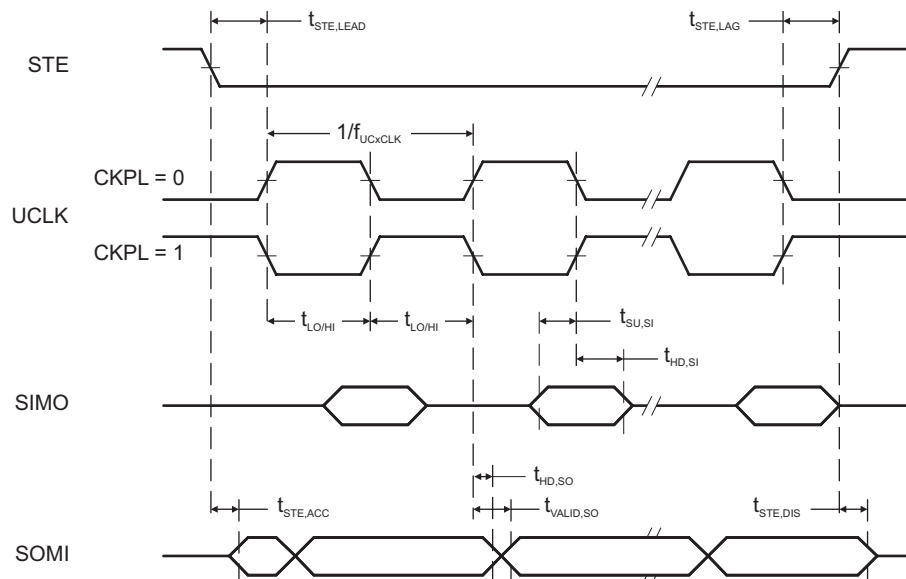
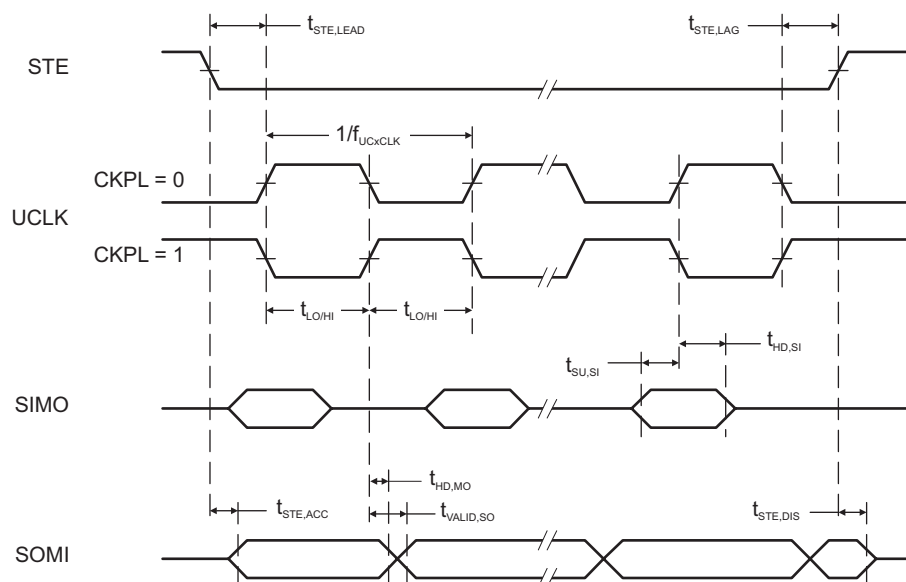

Figure 5-13. SPI Slave Mode, CKPH = 0
Figure 5-14. SPI Slave Mode, CKPH = 1
(see Figure 5-13 and Figure 5-14)
- (2) Specifies the time to drive the next valid data to the SOMI output after the output changing UCLK clock edge. See the timing diagrams in Figure 5-13 and Figure 5-14.
- (3) Specifies how long data on the SOMI output is valid after the output changing UCLK clock edge. See the timing diagrams in Figure 5-13 and Figure 5-14.